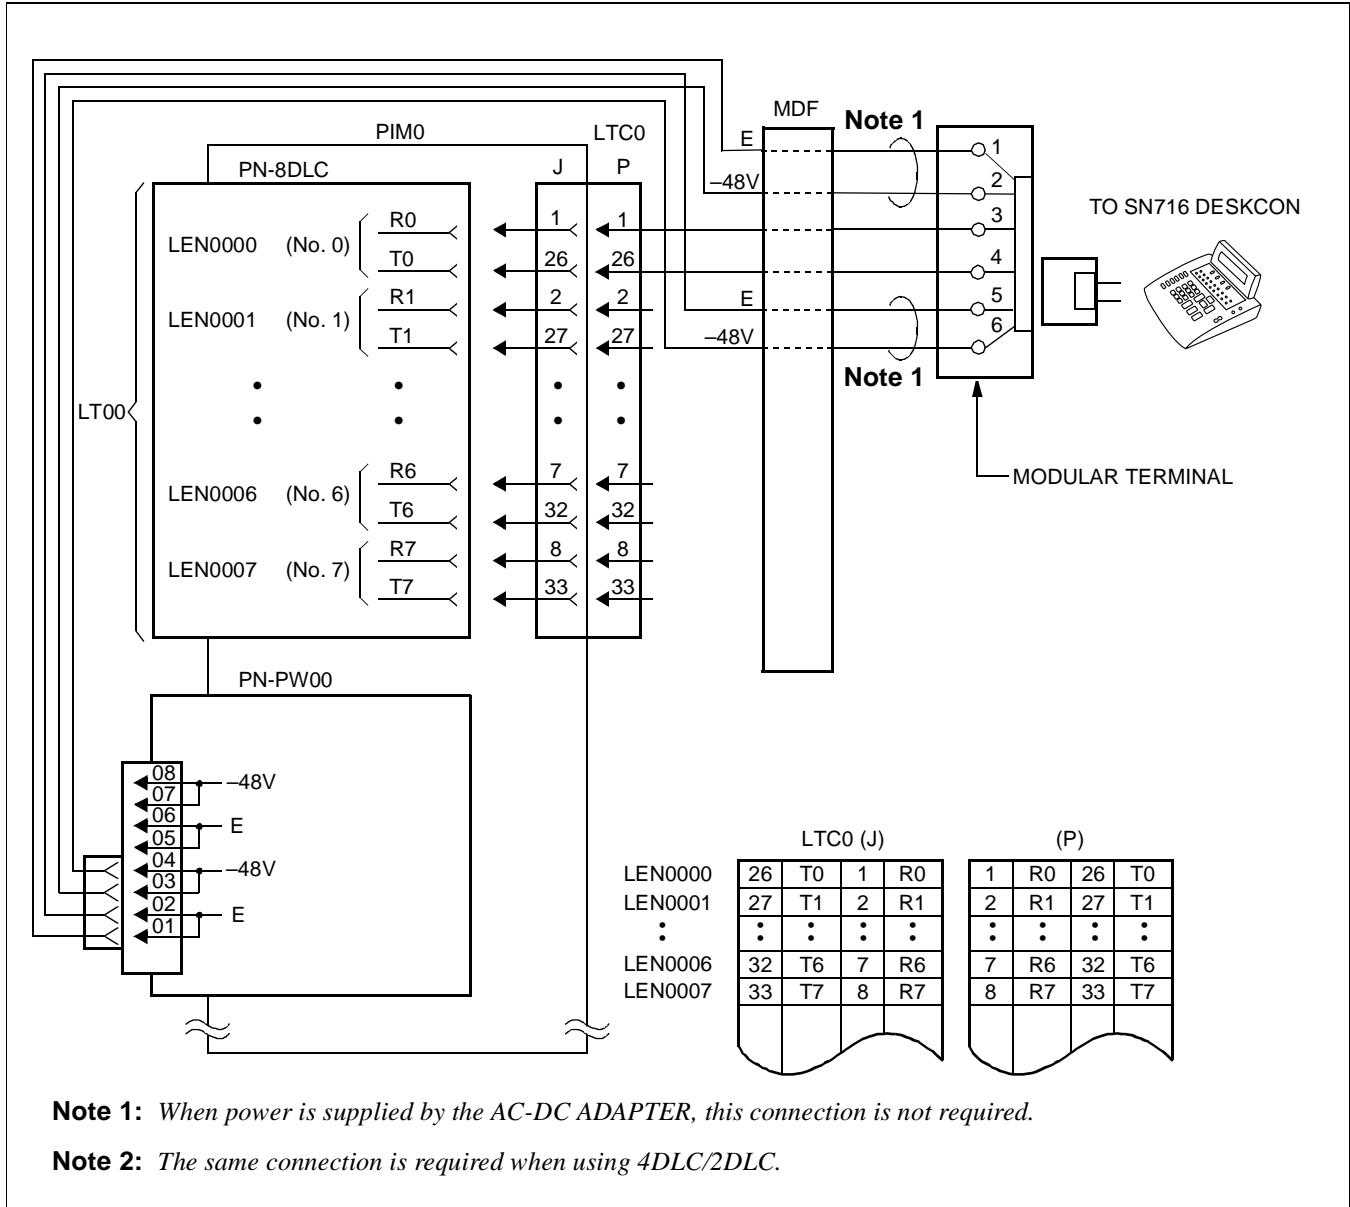

Figure 007-11 MDF Cross Connection for SN716 DESKCON
- (b) Connect the PW00 card and SN716 DESKCON by installation cable as shown in Figure 007-10 and Figure 007-11.